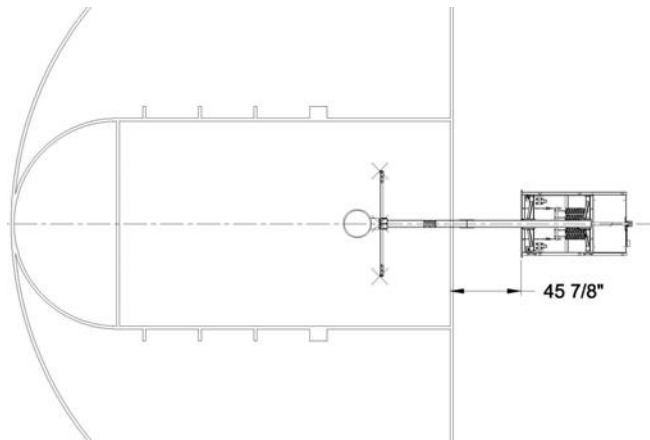

Figure 6
13. Push the unit to the playing location on the court. The unit should be 45-7/8" from the inside of the court base line to the front of the frame and centered on the centerline of the court as shown in figure 6.